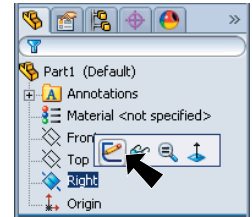

Fig. 1
Step 2. Click **Right**  (plane) in the Feature Manager and click **Sketch**  from the Content toolbar, **Fig. 1**.